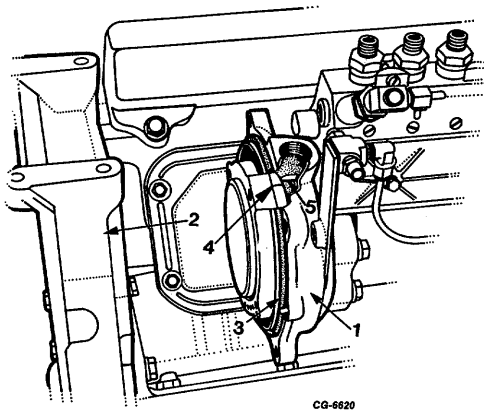

Fig. 158 Timing Injection Pump to Engine
- b. Remove sight plug on top of adaptor. Rotate drive gear hub until scribed line on hub is aligned with pointer pin (Figure 158).
- c. Rotate engine until piston is at TDC of compression stroke and the engine timing pointer is aligned with the 16 degree mark on the crankshaft pulley. (Figure 158).
- d. Using care not to move drive gear hub, install drive gear on hub (Figure 30). Recheck hub scribed line and pointer pin alignment (Figure 158).The scribed line on injection pump camshaft should be at Eleven O'clock as shown.